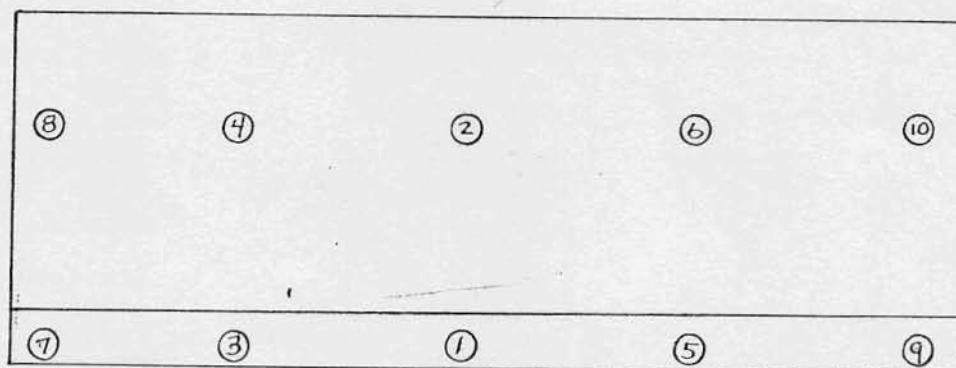

Figure 1
6. Carefully put the head-intake assembly onto the block and apply firm downward pressure on each head. As you are looking at the side of the engine block, with the transmission to the right, the head bolts are numbered as follows: starting from the top left and moving to the right 1,2,3,4,5. and starting from the lower left and moving to the right 6,7,8,9,10. Prior to tightening head bolts number 2 and 4 (on both heads) place a small amount of Loctite 510 on the bottom of the washer. The head bolts should be !! LIGHTLY !! tightened in the following order: 3,8,2,7,4,9,1,6,5,10 (fig. 1) Go to the other head and tighten in the same order. Tighten the intake manifold bolts. Return to the first head and repeat the tightening sequence, then do the same to the other head. Since there are no torque specifications, it is important not to overtighten the screws to the point of stripping the threads. Continue this process until both heads are flush with deck.